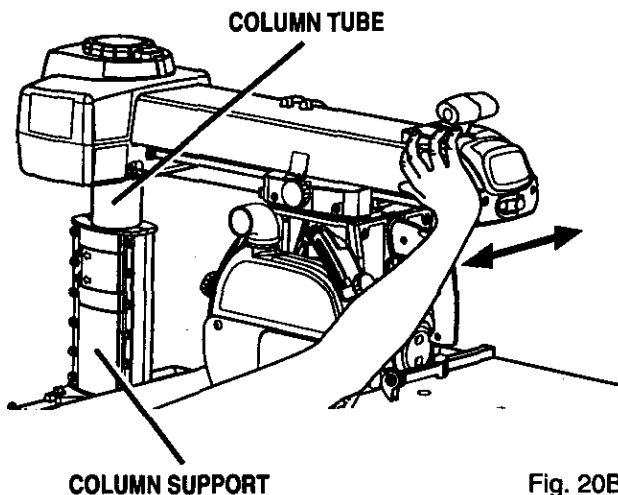

Fig. 20B
- **Rotation check:** To check the rotation, hold the front of the arm with one hand and grasp the top of the column support with the other. Press the arm to the side. If there is play between the column support and the column tube, it needs to be adjusted. See Figure 20B.